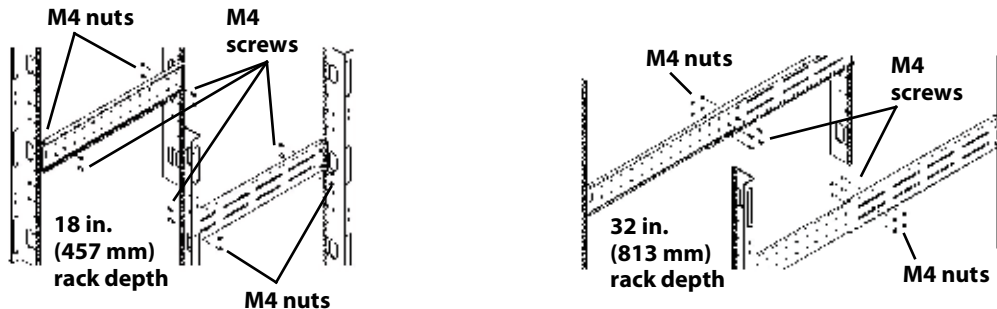

Figure 11: Fastening the rear member and front member together
- Get eight M4 screws and eight M4 nuts from the hardware pack in this kit. Each nut has a locking nylon insert that begins gripping the screw when it is halfway tight. Make sure to tighten the nut and screw completely to ensure locking action. Fasten the rear member and the front member together using four screws and four nuts per bracket assembly as shown in Figure 11. For maximum support, insert fasteners for each bracket assembly as far apart as possible, depending on rack depth, while still joining both members (see Figure 11). Check alignment of bracket assemblies and **TIGHTEN ALL SCREWS** from Steps 2 and 3.